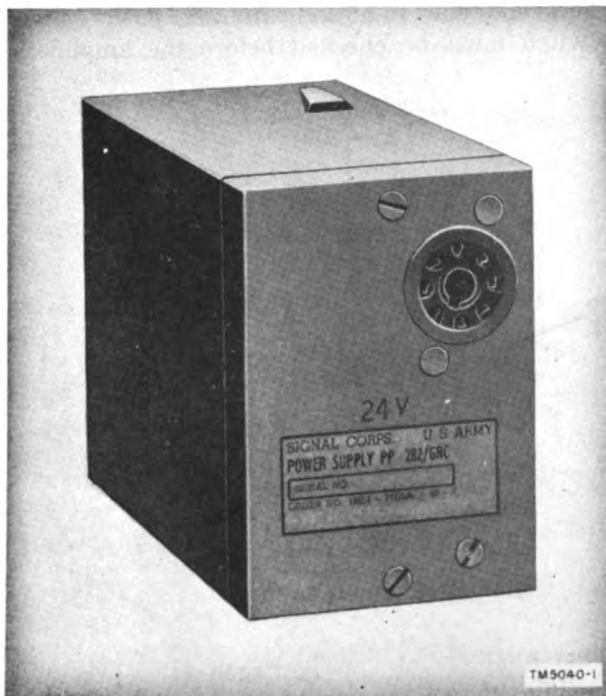

Figure 27. Power Supply PP-282/GRC, front view.
b. Insert and clamp the plug-in power supply unit (fig. 27) in the compartment on the amplifier chassis (fig. 47) so that the receptacle on the power supply mates with the plug within the amplifier compartment. Use Power Supply PP-281/GRC for 12-volt systems and Power Supply PP-282/GRC for 24-volt systems.